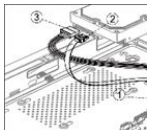

Figure 2-2 Fix HDD
Step 2 Connect the data cable and power cable. Refer to Figure 2-2.